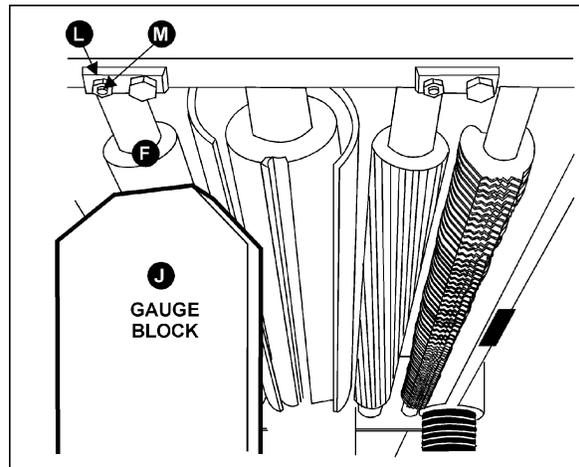

Figure 27
5. Remove the feeler gauge and move the gauge block (J, Figure 27) under one end of the outfeed roller (F, Figure 27). The bottom of the outfeed roller should just touch the top of the gauge block. If an adjustment to the outfeed roller is necessary, loosen the lock nut (L, Figure 27) and turn screw (M, Figure 27) until the outfeed roller just touches the gauge block. Then tighten lock nut (L, Figure 27).